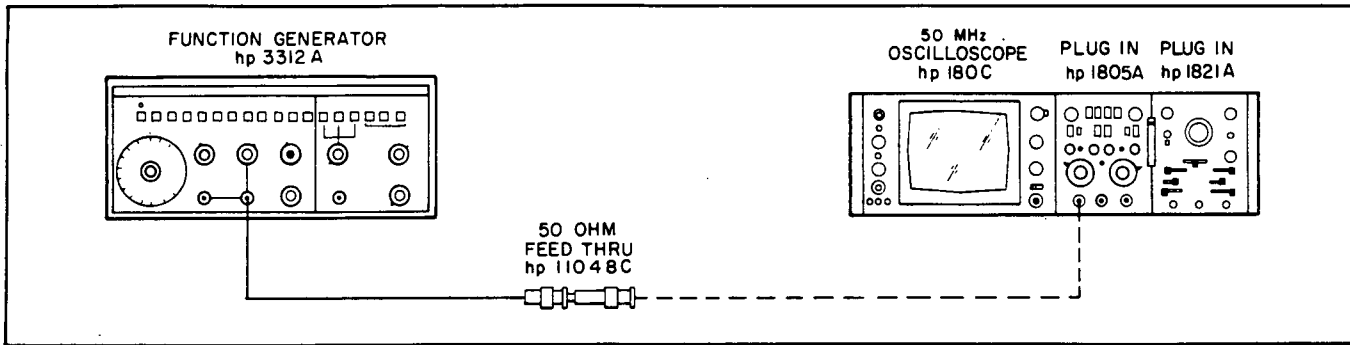

Figure 5-1. Rise Time Test.
a. Connect the 3312A as shown in Figure 5-1. Set the oscilloscope for a dc input.